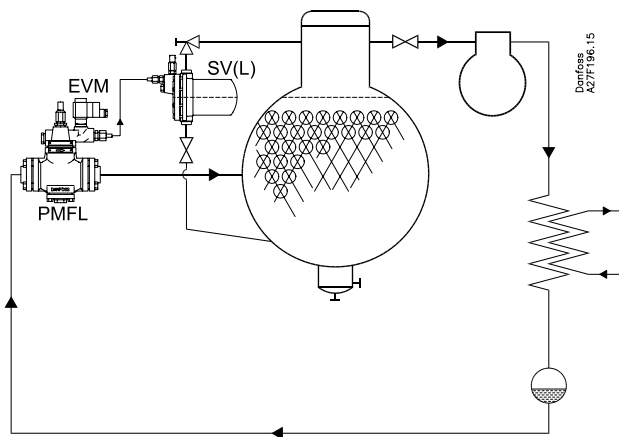

Fig. 3
b. Liquid level control (fig. 3):